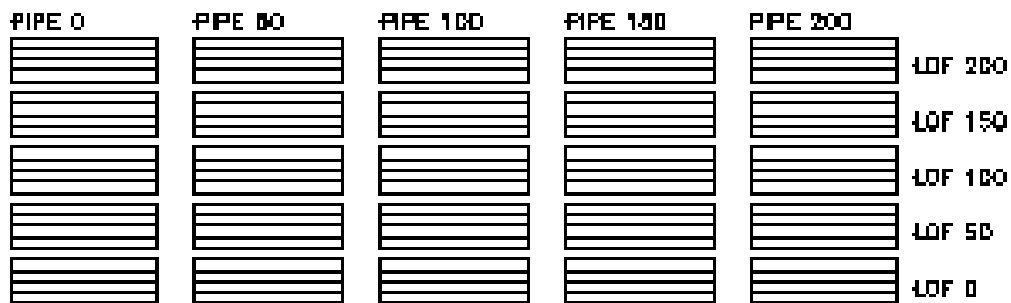

Figure 56: Discovery “Raster” Pattern
1. To set Laser Delays shown in Figure 56, do the following: